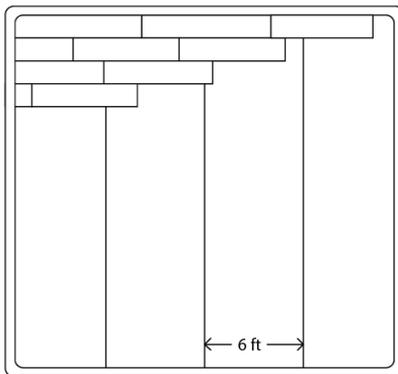

Figure 1
Step 2: For areas exceeding 150 sf., other than perimeter gluing (per Step 1), apply adhesive at approximately 6' interval, perpendicular to the direction of vinyl planks. See Fig. 1.